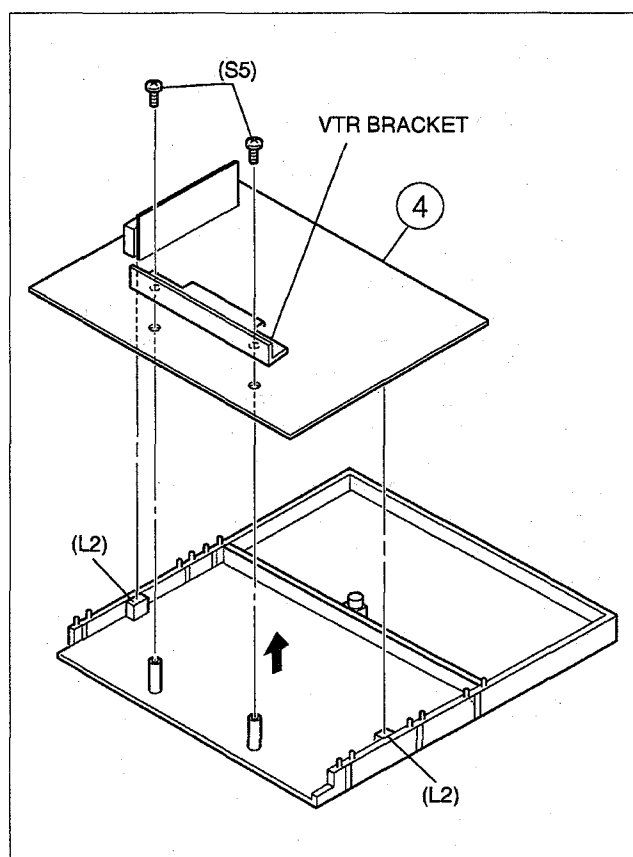
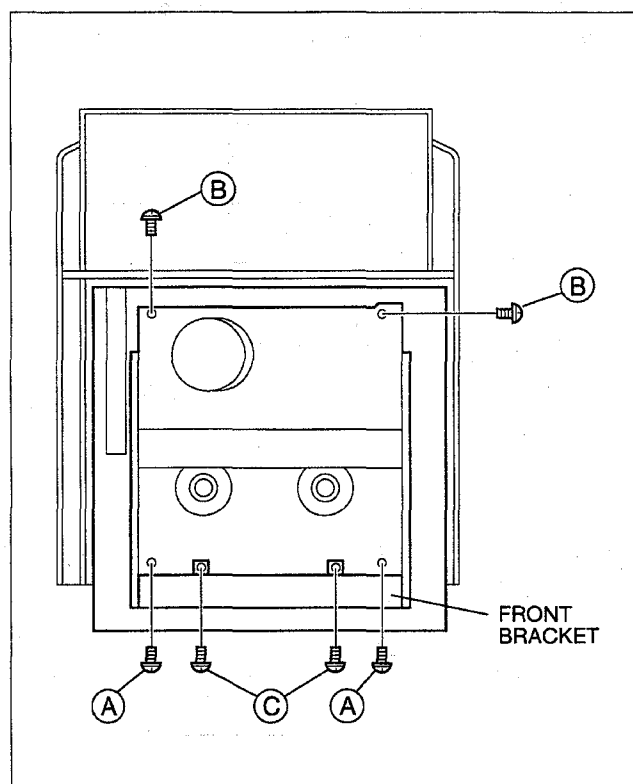

Fig. D4
Fig. 1-4-1
- (1) Remove the Top cover (See 1.3 DISASSEMBLY/ASSEMBLY METHOD.)
- (2) Lower the cassette holder, and make the preparations required in order to remove the bolts from the Main deck assembly. (Refer to the "Procedures for Lowering the Cassette holder assembly" on pages 25 of 1.3 DISASSEMBLY/ASSEMBLY METHOD.)
- (3) Take out the 2 screws (A) and 2 screws (B). (See Fig. 1-4-1.)
- (4) Take out the 2 screws (C) and remove the Front bracket.
- (5) Remove the VTR bracket. (See Fig. D4 on pages 24.)